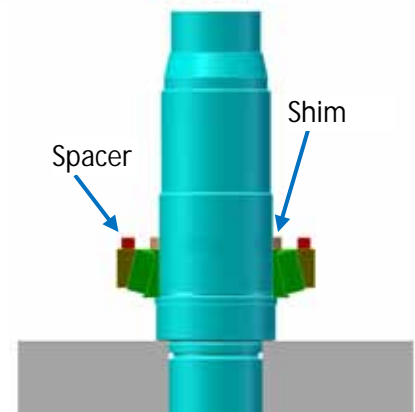

Figure 56a - Placing Shim and Spacer
5. Place the shim, Figure 56a, over the shaft and onto the lower cone and bearing roller assembly.
7. Place the spacer over the shaft and onto the lower cup, Figure 56a.